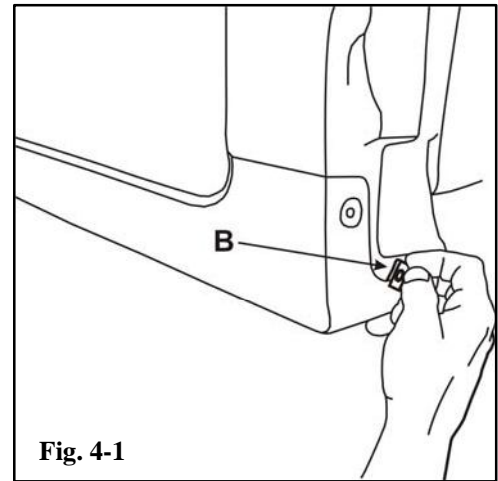

Fig. 4-1
- ⚠ (a) Install supplied spring clips over panel edge holes and hole markings with turned up edge on inside of panel. Location B. (Fig. 4-1)